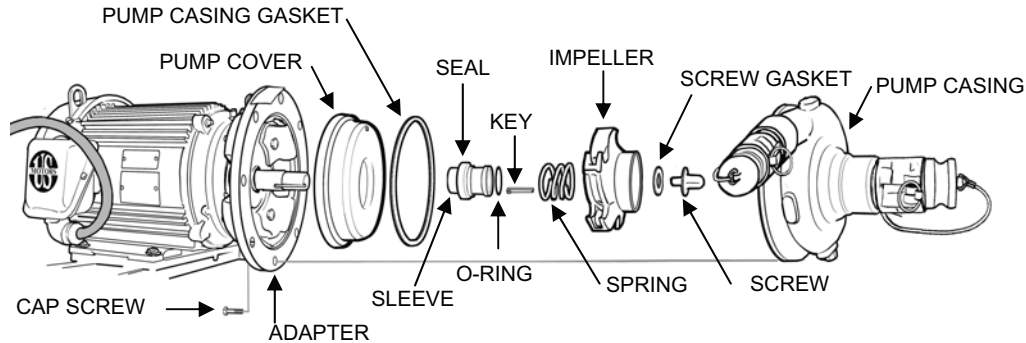

Figure 5. MF Feed Pump Removal.
2. Remove the MF Feed Pump P-3 as follows (see Figure 5).